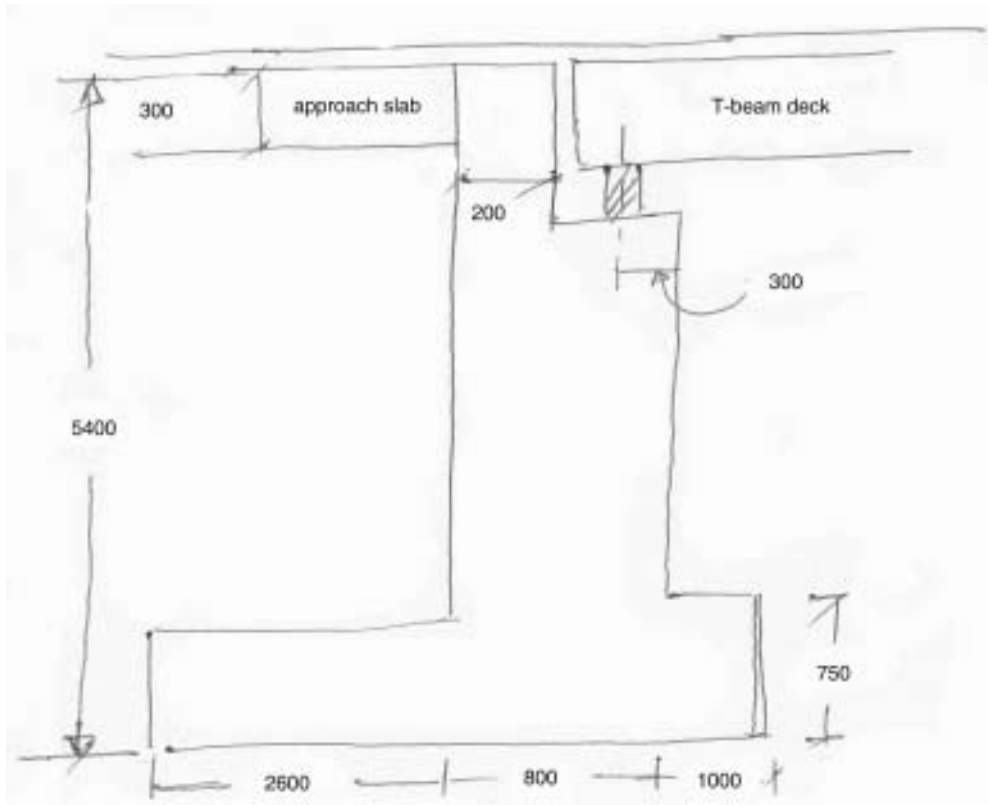

Fig. 5.1
5. Check the adequacy of abutment investigate FOS against sliding and overturning for the abutment as shown in fig. 5.1.